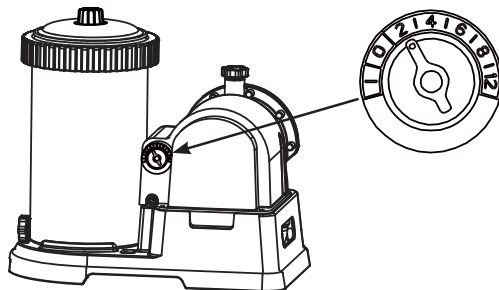

FIG 10
- A. Plug the power cord into the electrical outlet and set the timer dial to the desired operating hours (see Fig. 10). See the "Operating Time Table" for the required operating hours related to each pool size.